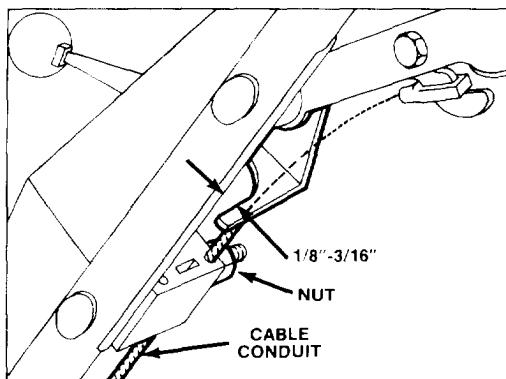

Figure 19
2. **CHECK ADJUSTMENT** (Fig. 19) — Move control bar toward handle until slack in wire is removed. Gap between brake lever and handle must be $1/8'' - 3/16''$. See step 3 for adjustment.
3. **ADJUST CABLE CONDUIT** — Loosen nut on cable bracket (Fig. 19). Insert $1/8'' - 3/16''$ object between brake lever and handle. Pull down on cable conduit until slack is removed. Then tighten nut.